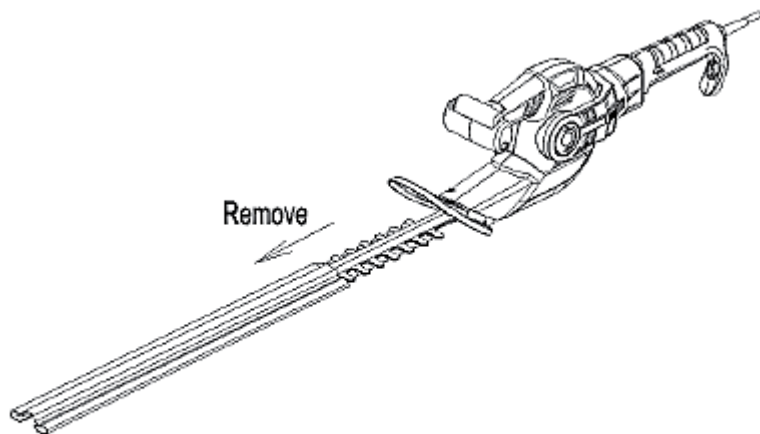

Fig.9
1. Remove the blade sheath (7) from the blade (6) (see Fig 9).